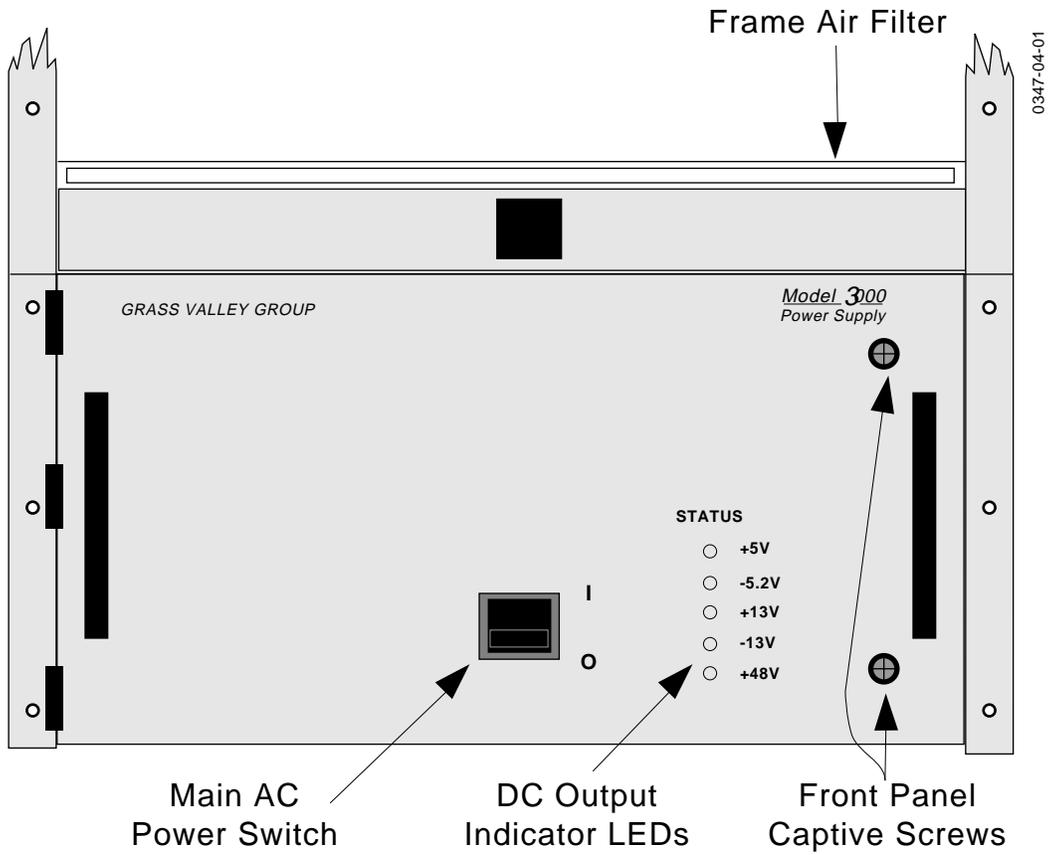

Figure 4-1. Frame Power Supply (Front) AC Switch Location.
1. Turn the main power switch on the front of the supply to the OFF (Ø) position. The five green DC output LEDs on the front panel will extinguish. See Figure 4-1.